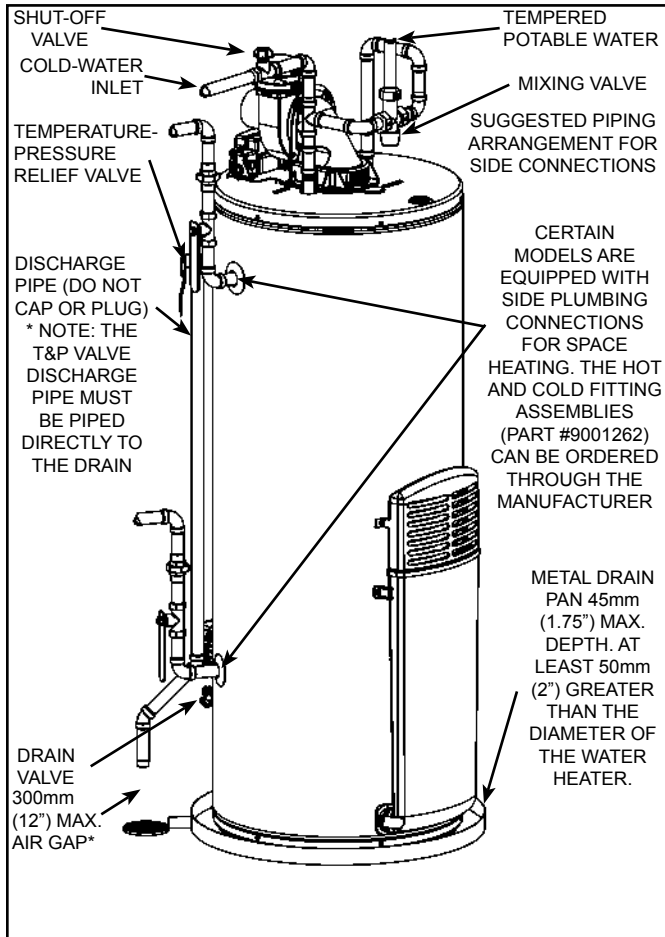
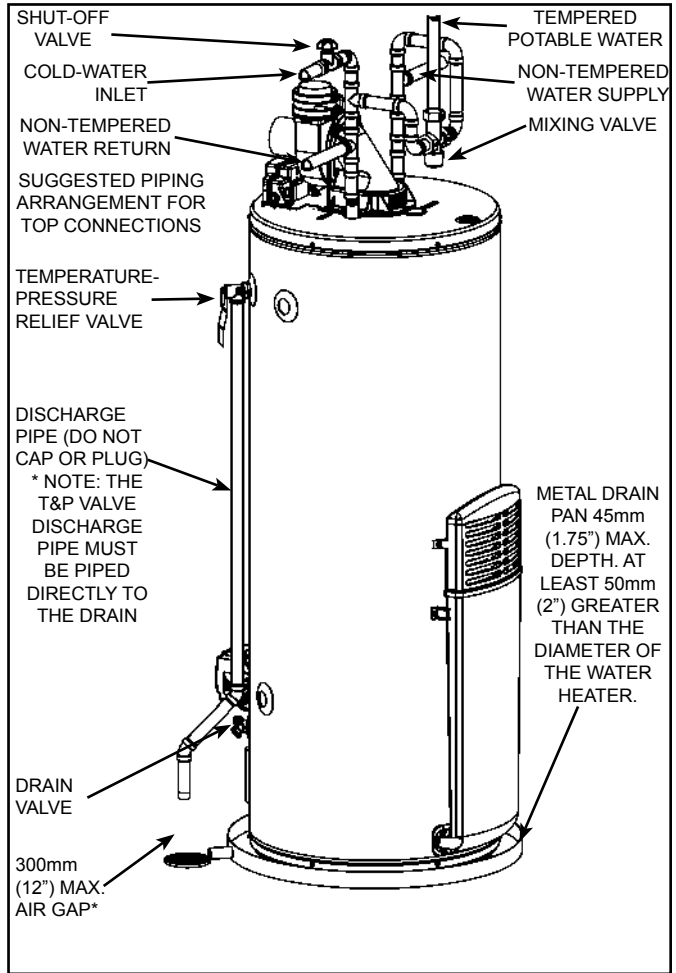

Figure 8.
Figure 9.
Models equipped with Combo Heating capabilities are shipped with the two side plumbing taps (item 18 and item 20 in Figure 1 and see also Figure 8 & Figure 22). If the heater is to be operated using the side taps, these openings **must be opened** by removing the two pipe plugs installed in the heaters.
In addition to using lowest possible temperature setting that satisfies demand of application, a mixing valve should be installed at water heater (see Figure 8 & Figure 9) or at hot-water taps to further reduce system water temperature. Mixing valves are available at plumbing supply stores. Consult a Qualified Installer or Service Agency. Follow mixing valve manufacturer’s instructions for installation of the valves. Before changing the factory setting on the thermostat, read the “Operating The Temperature Control System” section in this manual.